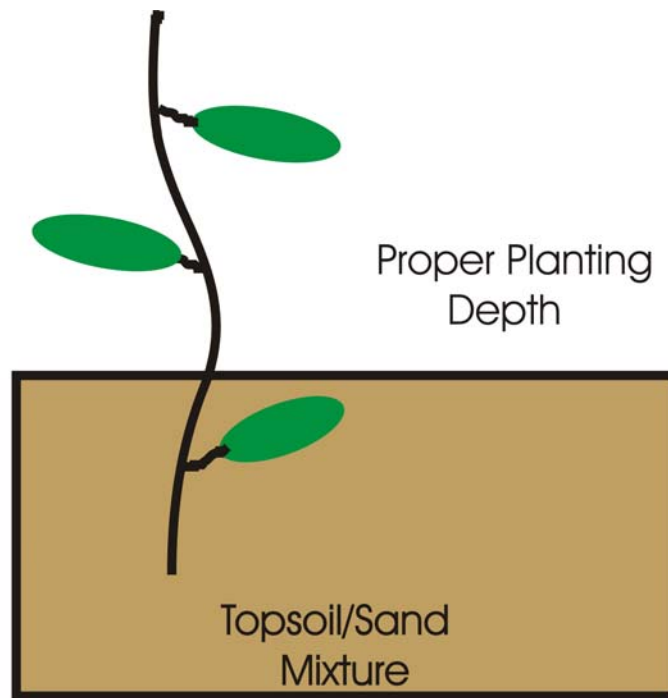

Fig. 6 - Proper planting depth of cuttings.
3. Plant all of the cuttings for growth chamber A into tray 1. Using the tip of your finger, bury each redhead grass cuttings so that one leaf is in the sediment and two leaves are above the sediment. Make sure they are evenly spaced from the sides of the tray and the other plants. Smooth the sand flat around the base of the stem (Fig. 6).